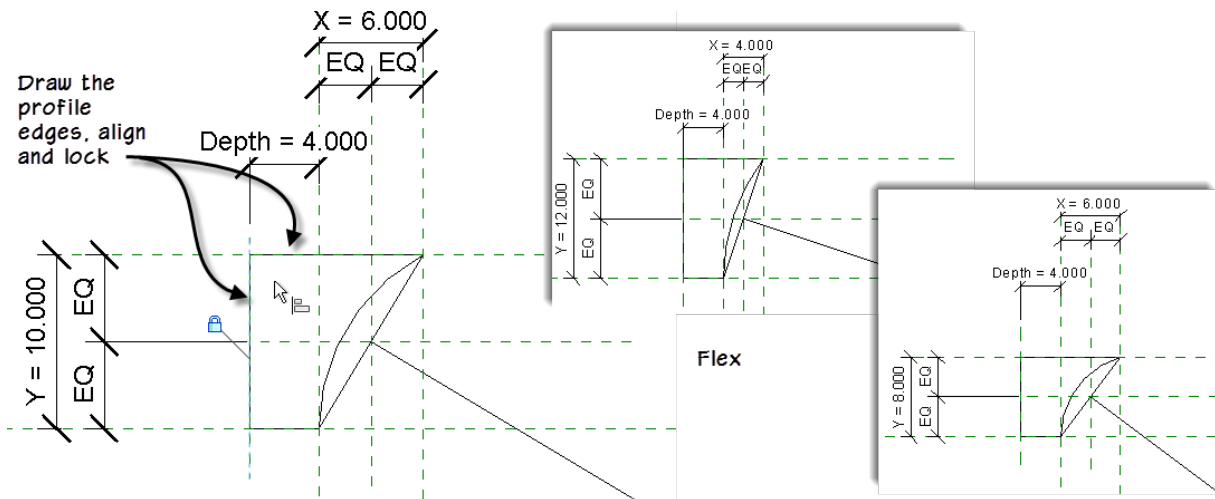

Figure 39—Create the profile shape and align and lock as necessary
16. On the left, top and bottom, draw straight lines. Align and lock anywhere an Automatic Sketch Dimension appears (see Figure 39).